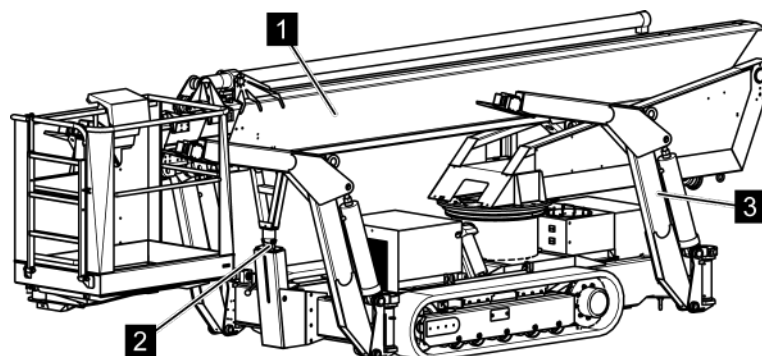

Fig. 92: Transport position
- The telescopic arm (Fig. 92/1) is on the transport attachment (Fig. 92/2).
- The outriggers (Fig. 92/3) are retracted and in transport position.